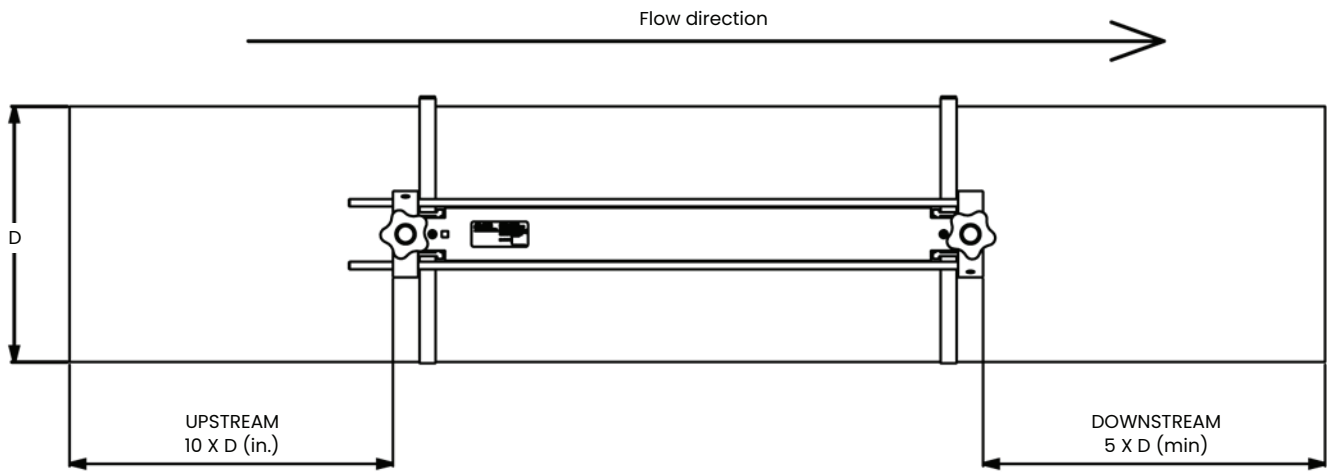

Figure 7: AT600 clamp-on fixture/transducer location
- Position the clamp-on fixture(s) and transducer system so that there are at least 10 pipe diameters of straight, undisturbed flow upstream and 5 pipe diameters of straight, undisturbed flow downstream from the measurement point (see figure 7 below). Undisturbed flow means avoiding sources of turbulence in the fluid such as valves, flanges, expansion joints, elbows, swirl, and cavitation.
- a. Choose a location with enough straight pipe run (refer to figure 7 on page 7).